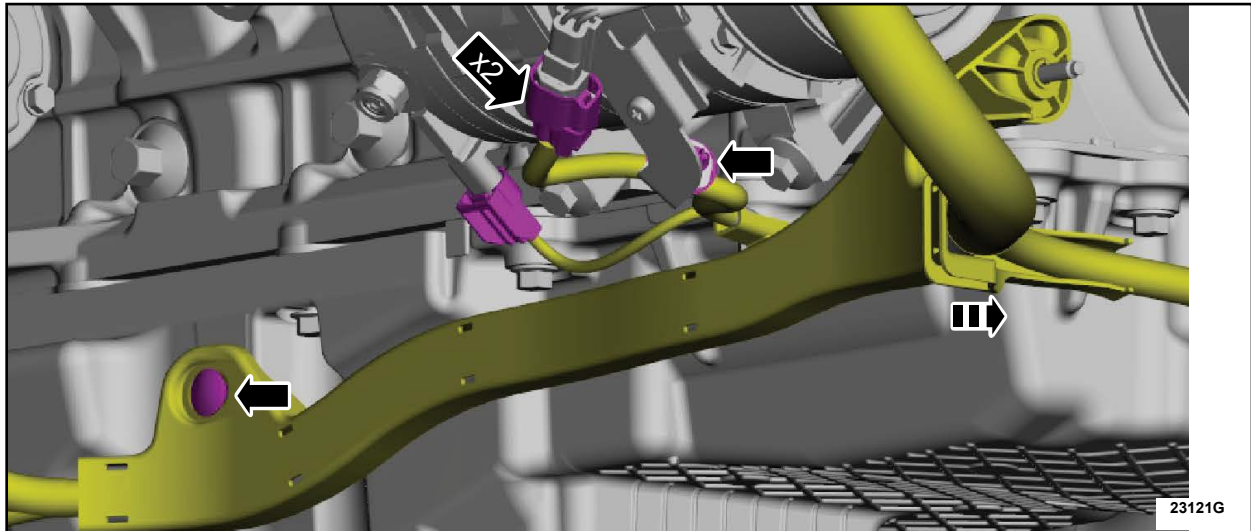

FIGURE 5
18. Disconnect the A/C compressor electrical connectors, detach the wiring harness retainer, remove the retainer and position the wiring harness aside. See Figure 5.